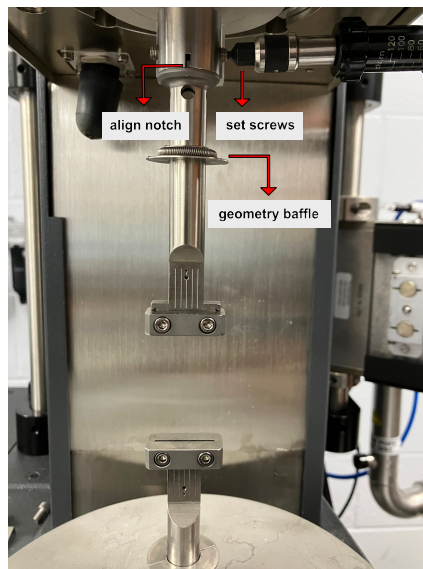

Figure 2: Adding the geometry. Here exemplified with Tension fixture geometry
- (2.2) Place the lower geometry on the motor shaft and tighten the set screws (fig.2).